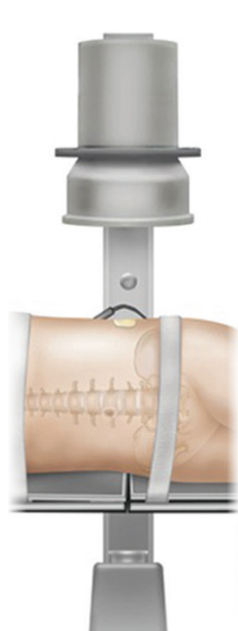

Figure 2a
When using the CD Horizon™ Solera™ Voyager™ 5.5/6.0mm Spinal System, the patient should be placed in either the prone or the lateral position (Figure 2a) and efforts should be made to maximise lordosis in the spine. Prior to skin incision, it is recommended to verify that adequate fluoroscopic images of the pedicles can be obtained in both the anterior/posterior (AP) and lateral views. If difficulty is encountered when attempting to identify the S1 pedicles on the AP view, the Ferguson C-Arm view can be useful (Figure 2b). To assist with accurate pedicle cannulation, the spinous process should be positioned midway between the pedicles on the AP view and the vertebral body endplates and pedicles should be crisp and single on the lateral views.